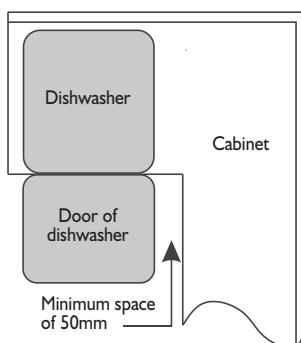

Fig. 2
2. If dishwasher is installed at the corner of the cabinet, there should be some space (illustrated in **fig. 2**) when the door is opened.